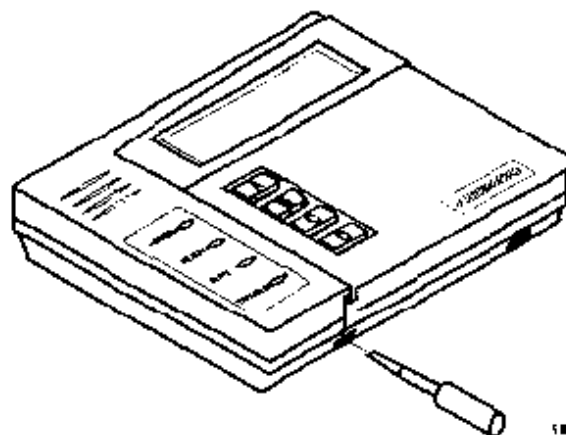

Figure 1
1. Remove the case back by inserting a thin-bladed screwdriver, in turn, against each of the two snap-open tabs (see Figure 1 below). Pry apart the case back as each tab is depressed.